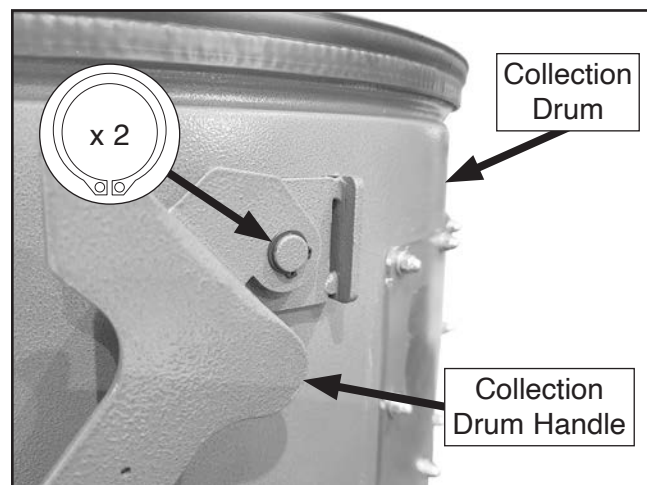

Figure 27. Collection drum handle attached to collection drum.
12. Attach collection drum handle to collection drum and secure with (2) 13mm external retaining rings, as shown in **Figure 27**.